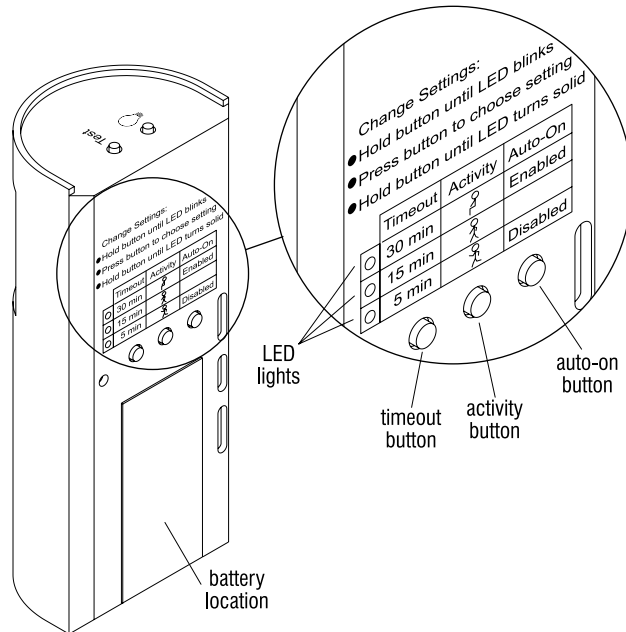

Figure 8 - Occupancy Sensor Back
1. Before pairing the occupancy sensor to the fans wireless controller, the battery must be installed. Then, the sensor must be placed into 1-minute mode, with "Auto On" enabled. To do this, locate the three grey buttons on the back of the occupancy sensor. Set "Timeout" to 1 minute by pressing and holding the "Timeout" button until all three LED indicators blink. Then release the button, and press and hold the same button again until all three LED indicator lights are on steady, then release the button. To confirm that 1-minute mode has been set, press and release the "Timeout" button. All three LED indicator lights will light-up solid (Figure 8).
2. Next, using instructions on the back of the occupancy sensor, set "Activity" to the sitting icon (most sensitive) which will allow lights to stay on with very little motion. Then, set "Auto On" to enabled. This allows the lights to turn on with the fans when occupants enter the room. When an occupant vacates, lights and fans turn off at designated "Timeout" setting. If "Auto On" is disabled, the lights will not turn on with the fans upon entering the room. The lights will need to be manually turned on with the remote switch. Both fans and lights will turn off after vacating the space, with either setting (Figure 8).
- Once pairing is complete and confirmed, reference the occupancy sensor's manufacturer's instructions and set the desired Timeout and Auto-On settings on the back of the occupancy sensor. Then re-install the occupancy sensor onto the mounting bracket in the room (Figure 8).